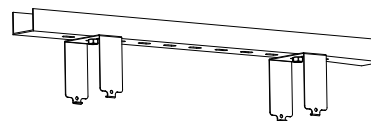

Figure 6
- Step 1. Mount the bracket on the rail or ceiling (Figure 6)